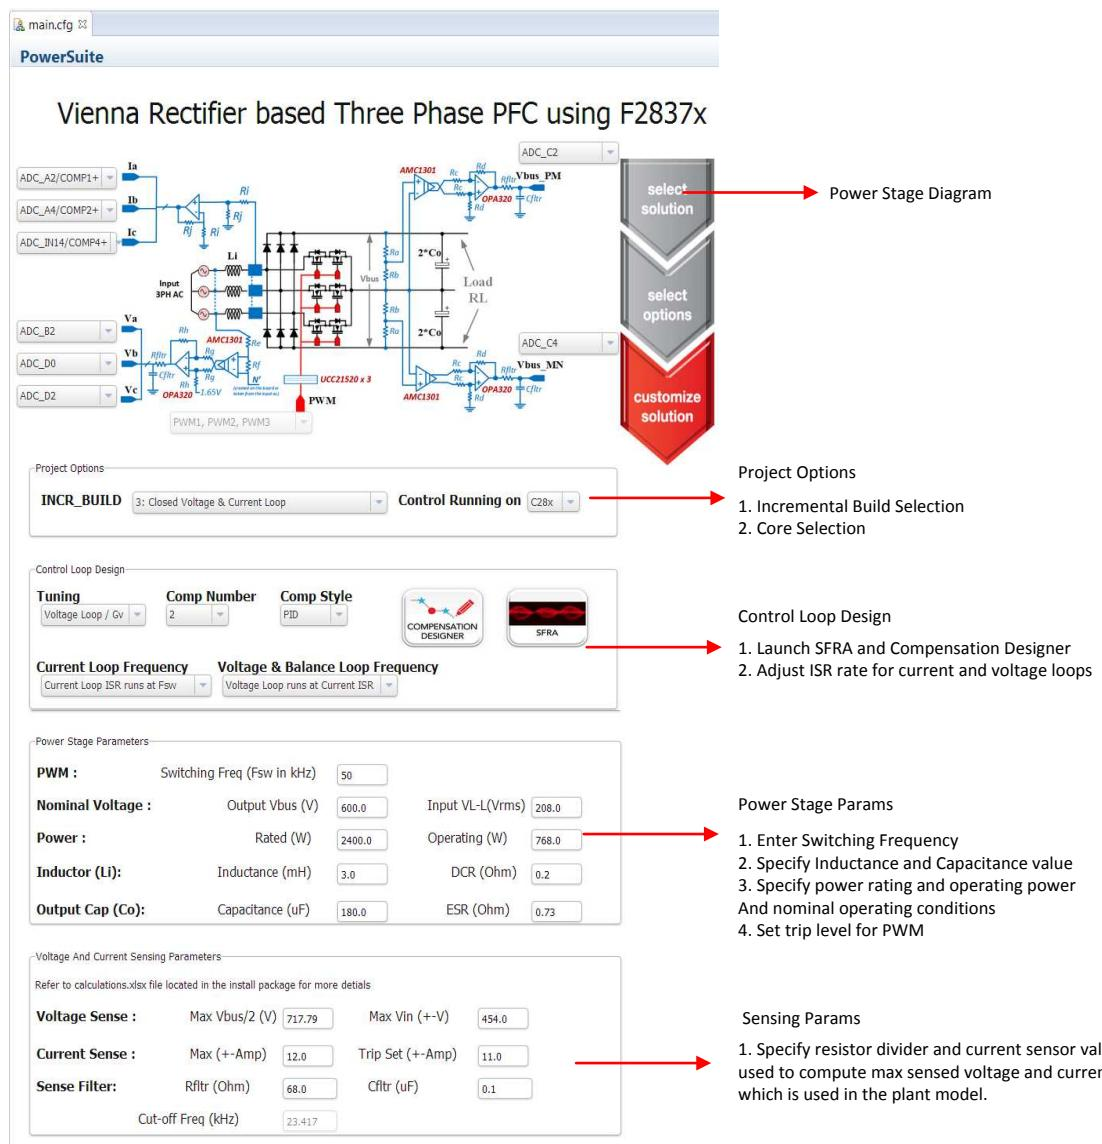

Figure 17. powerSUITE Page for Vienna Rectifier Solution
4. This will import the project into the workspace environment, and a cfg page with a GUI similar to Figure 17 will show up.
4. Once the icon is clicked, a pop-up window will show up asking for a location to create the project. One can also save the project inside the workspace itself. Once the location is specified, a project is created, and a GUI page will appear with modifiable options for the solution (Figure 17).